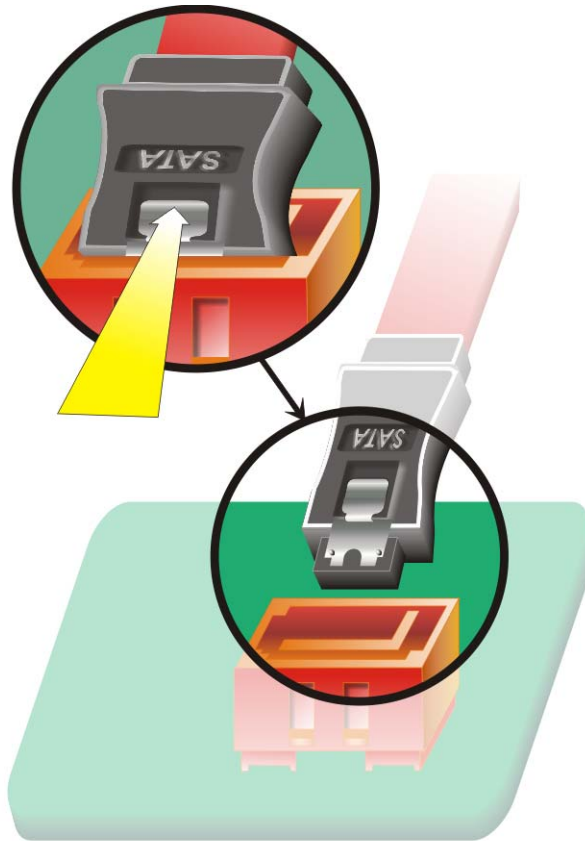

Figure 5-9: SATA Drive Cable Connection
Step 2: Press the clip on the connector at the end of the SATA cable and insert the cable connector into the on-board SATA drive connector (**Figure 5-9**).